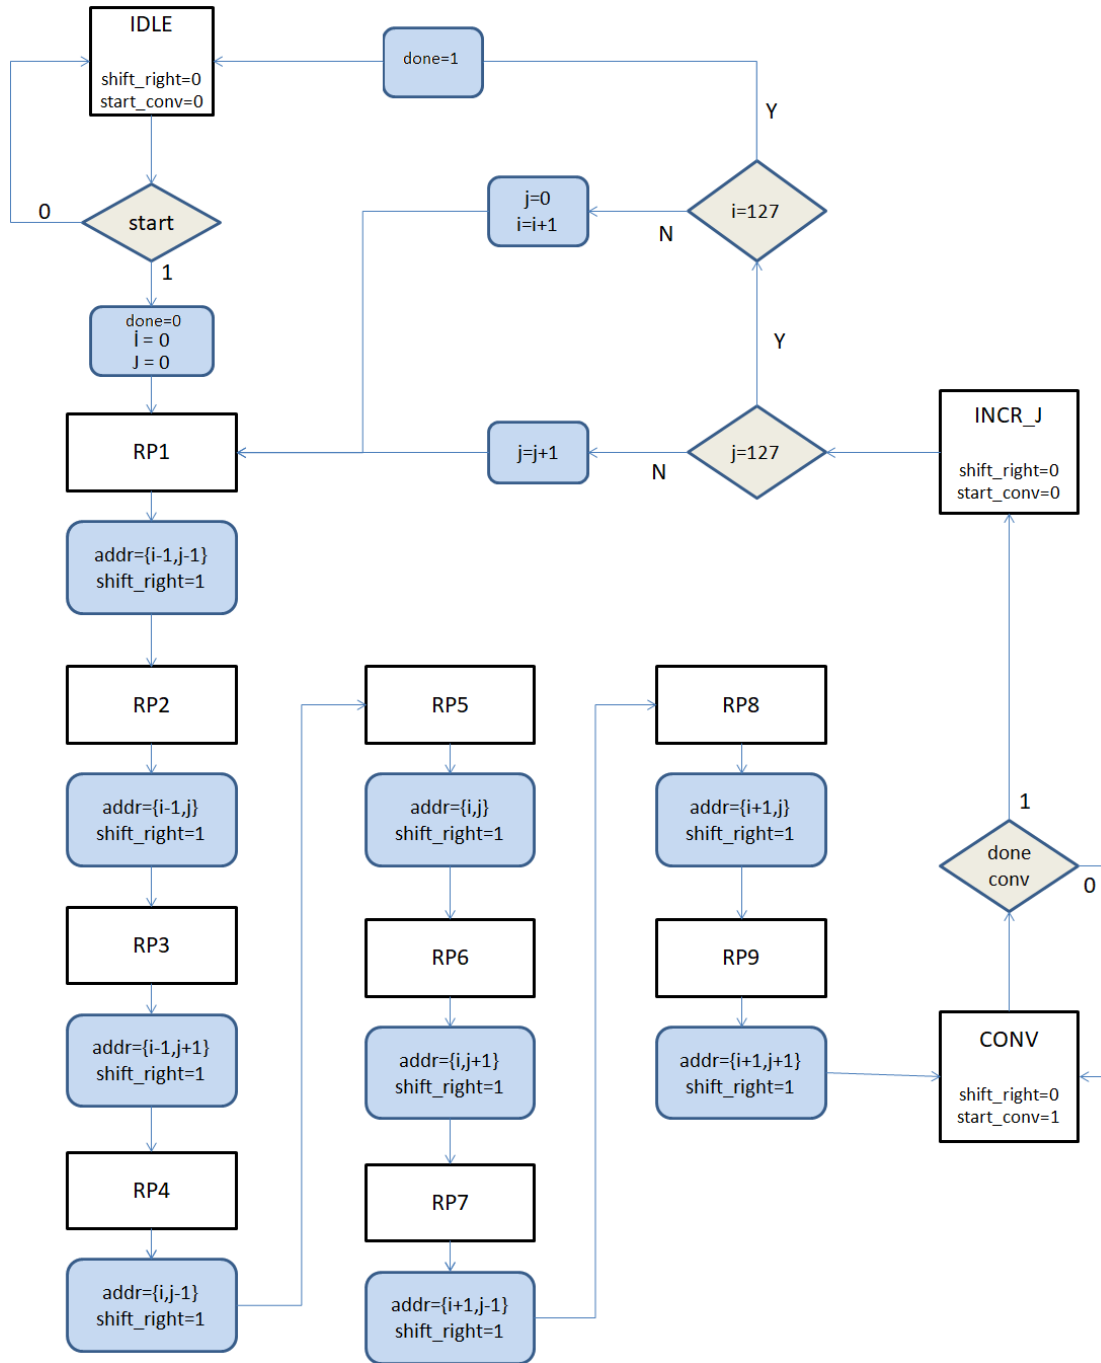

Figure 4: Algorithmic state machine for module control\_FSM.
6. Waveform of the simulation for one iteration, especially show that BRAM addresses and state registers are changing according to the algorithmic state machine shown in Figure 4.
- This circuit should implement the algorithmic state machine shown in Figure 4. The white rectangles in Figure 4 indicates the states. The blue soft corner rectangles in Figure 4 indicates the actions realized during the state above. The brown diamond in Figure 4 indicates the decisions taken in the above state.
- Coding can be done in any desired style, but using case structure with state names as shown in Figure 4 pre-assigned to parameters is recommended.